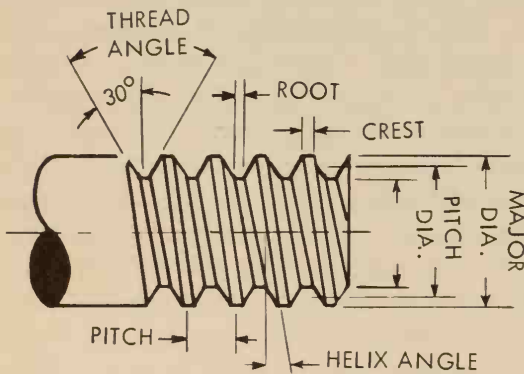

Fig. 4-80. Parts of a thread.
The American National thread system is the most common one used in the United States. The American National is a 60 degree thread with the crest and root flattened. Fig. 4-80. There are two common series. The National Course (NC), which is used for general purpose work, and the National Fine (NF) which is used for precision assemblies such as aircraft engines, automobiles, and adjusting mechanisms.